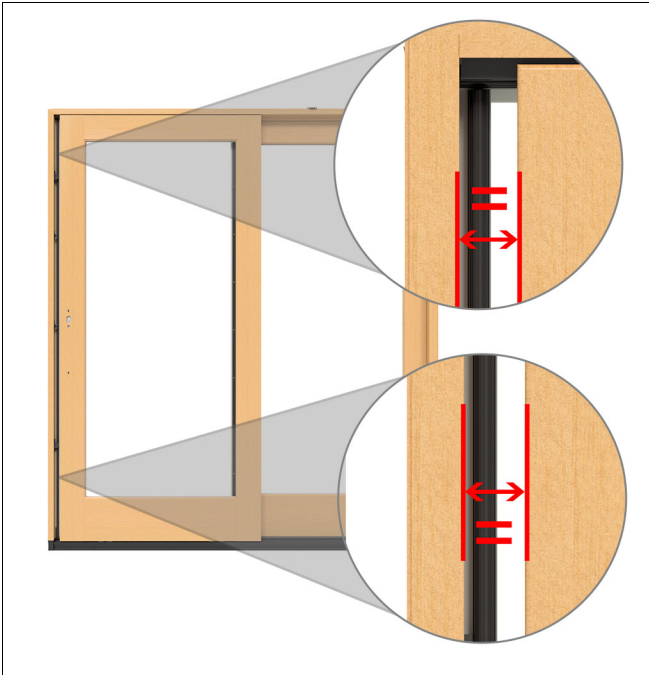

Figure 41 OX configuration shown. Consistent reveal along the locking stile of operating panel.
**1. Panel Adjustment:** Slide the panel close to the locking jamb or meeting stiles. Observe the vertical gap between the panel and the jamb (or meeting stiles). The gap should be equal along the panel. Also, observe the horizontal gap at the top of the panel. See Figure 41.